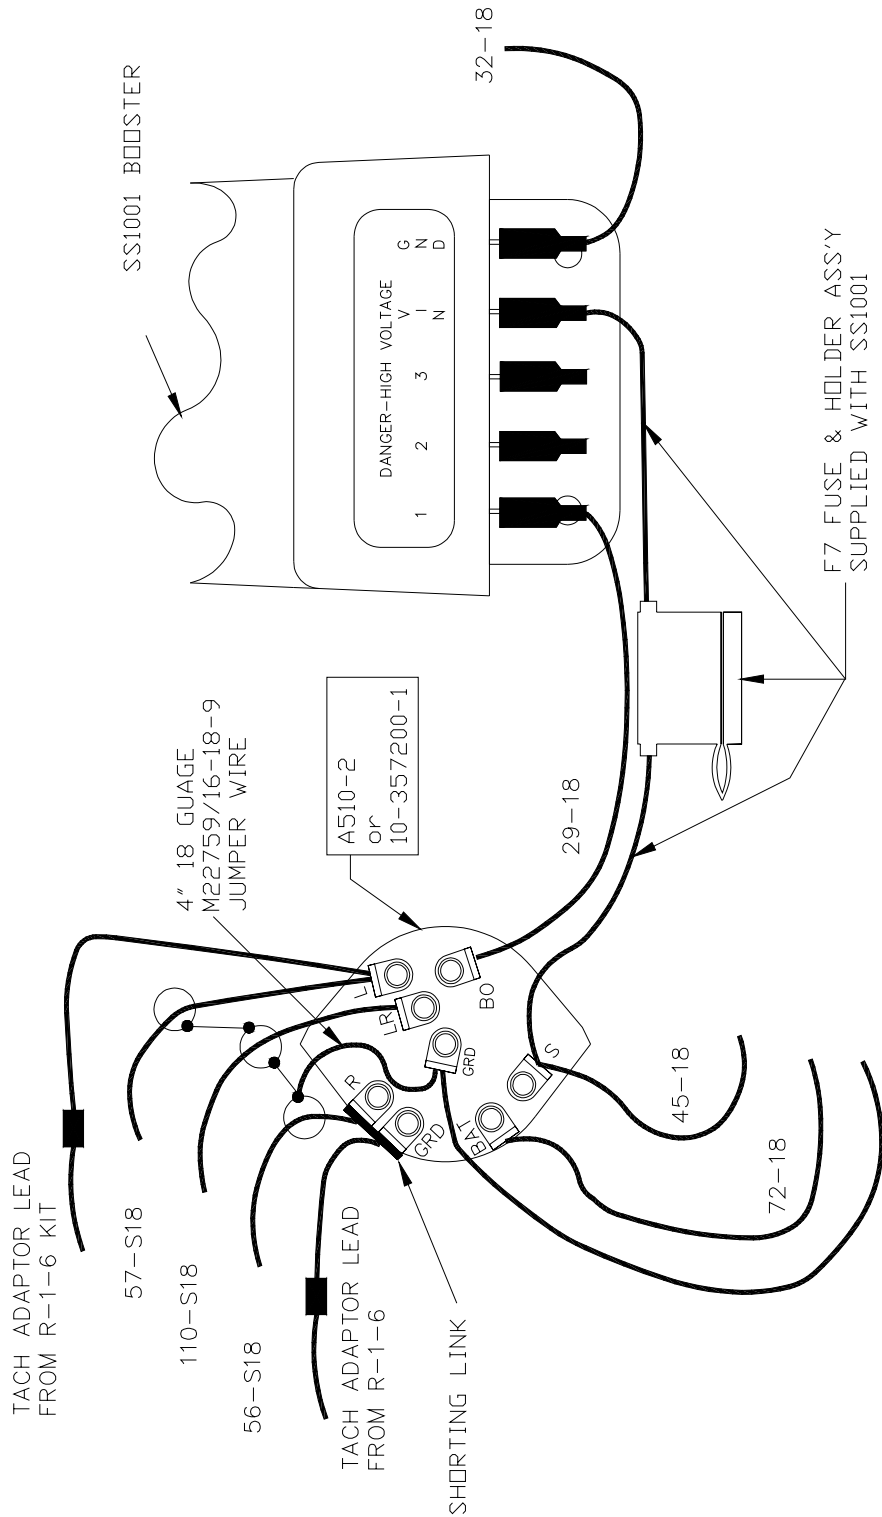

FIGURE 3 PRE-EXISTING IGNITION SWITCH WIRING
4. Figure 3 illustrates the current wiring arrangement. Note, the 10-357200-1 switch has an extra terminal, labeled “PR” and is not used.